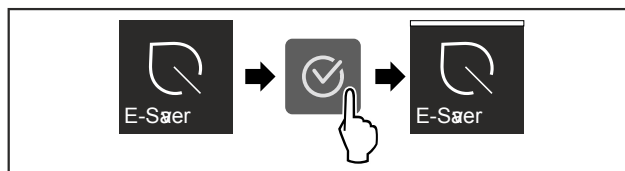

Fig. 15
- ▶ Complete the steps (see Fig. 15).